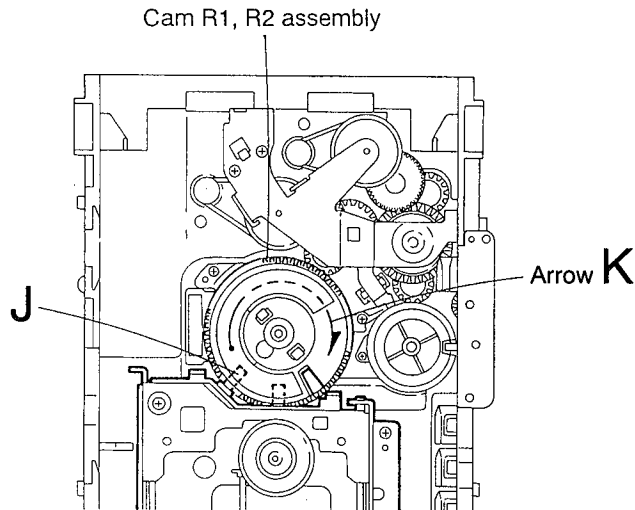

Fig.5-45
## ■ Removing the CD mechanism (See Figs. 5-45 and 5-46)
1. For dismantling only the CD mechanism without removing the CD mechanism assembly, align the shaft "J" of the CD mechanism assembly to the position shown in Fig. 5-45 while turning the cam R1 and R2 assembly in the arrow direction "K".